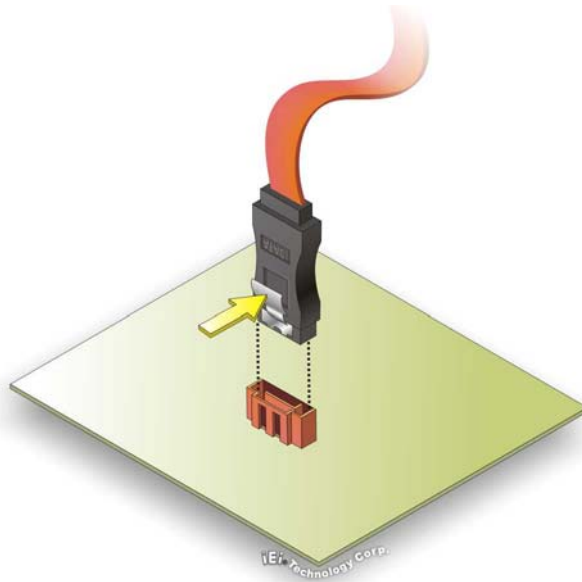

Figure 4-10: SATA Drive Cable Connection
Step 2: **Insert the cable connector.** Press the clip on the connector at the end of the SATA cable and insert the cable connector into the on-board SATA drive connector. See **Figure 4-10**.